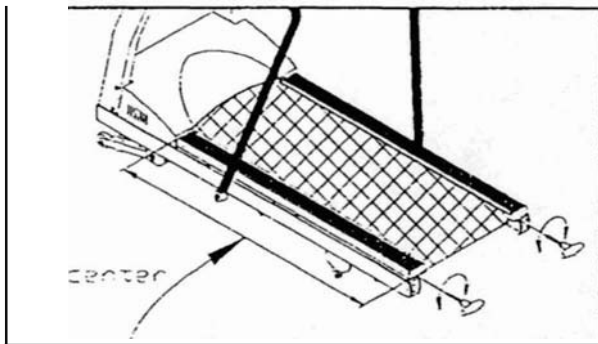

Fig.26
- 2.If there is too loose, you can tighten the belt by adjusting both bolts on rear roller colockwise 1/2 turn at one time. Conversely, if the belt is too tight, adjust both bolts counterclockwise 1/2 turn at one time.(see Fig.26)